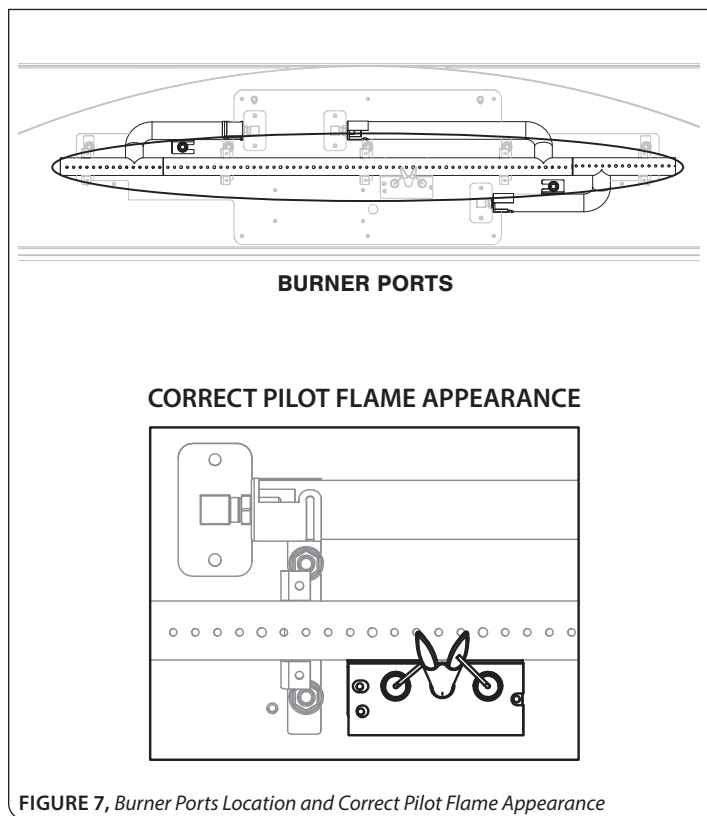

FIGURE 7, Burner Ports Location and Correct Pilot Flame Appearance
- Step 1: Light the pilot. Visually check the pilot flame to verify flame envelops the top of the flame sensor and extends far enough onto the burner for proper ignition. See **FIGURE 7**.